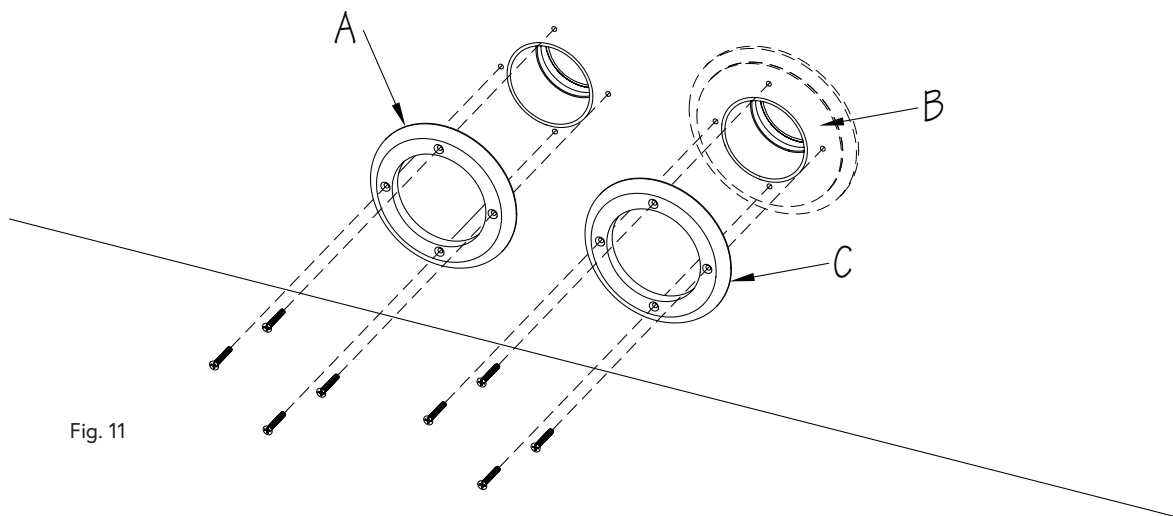

Fig. 11
9. Remove the Faceplates (A) after the holes have been cut in the liner. Spread a thin layer of silicone on the face of the black gasket (B) that is adhered to the Star Thru-Wall Fitting (behind the liner). Spread a thin layer of silicone on the back of the Faceplate (C). Re-attach the Faceplate and allow the silicone to cure (Fig. 11).